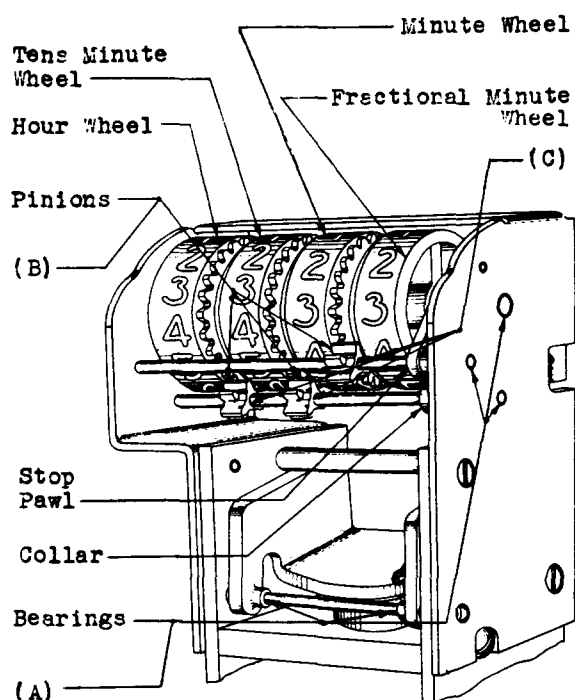

Fig. 1
Bearing at each end of all shafts—Fig. 1(A)
Teeth of each pinion — Fig. 1(B)
Bearing surface of each pinion — Fig. 1(C)